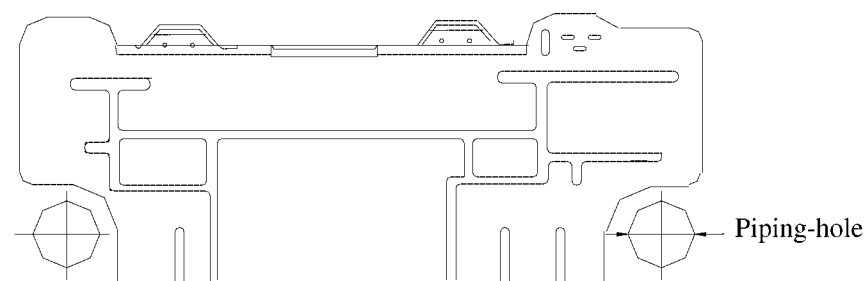

Fig.1
4. The diameter showed on the fig.1 is: 50mm for model 20,25,35; 65mm for model 50.